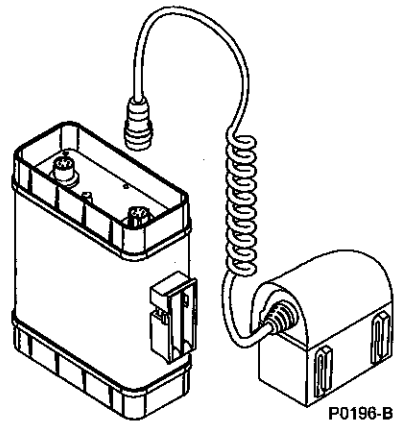

Figure 8 - Golden Hawk Battery Pack
4.4 Battery Pack (see Figure 8)